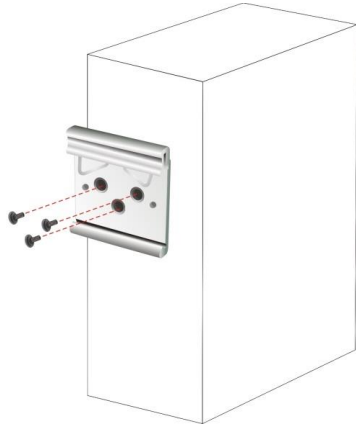

Figure 3-12: DIN Rail Mounting Bracket Installation
Step 1: Attach the supplied DIN rail mounting bracket to the rear panel of the embedded system. Secure the bracket to the embedded system with three retention screws (Figure 3-12)